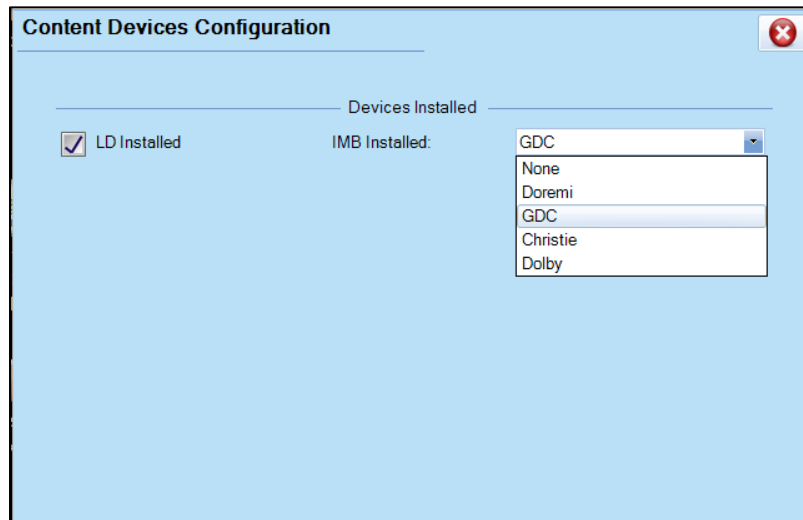

Figure 25: Content Devices Configuration
5. Select **[GDC]** for the **[IMB Installed]** (as shown in **Figure 25**).